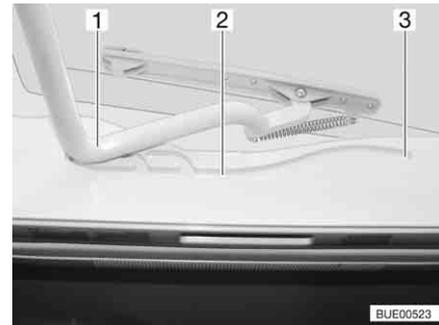

Fig. 66 Heki skylight, guide
- Pull the bar (Fig. 66,1) in the guides (Fig. 66,2) to the rearmost position (Fig. 66,3).
- Use both hands to push the bar (Fig. 66,1) slightly upwards.
- Pull the bar in the guides (Fig. 66,2) to the desired position.